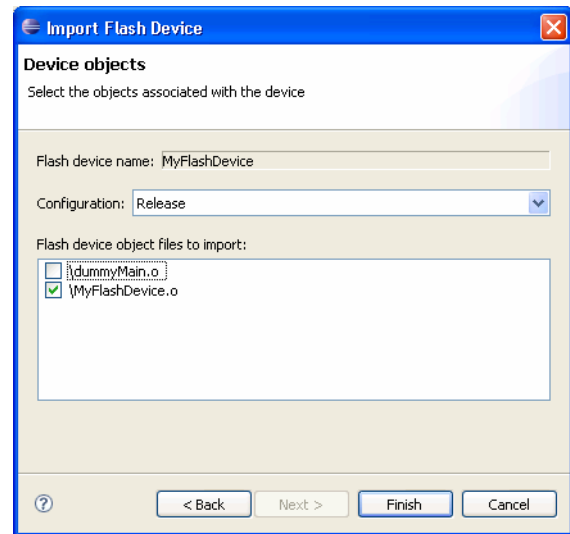

Figure 6 Selecting configuration and object files to import
5. Check the `.o` object file that contains your flash algorithm and uncheck any other `.o` files (see Figure 6). The `.o` file for your flash algorithm normally has the same name as you gave the flash device when creating the flash algorithm project. Click **Finish**.